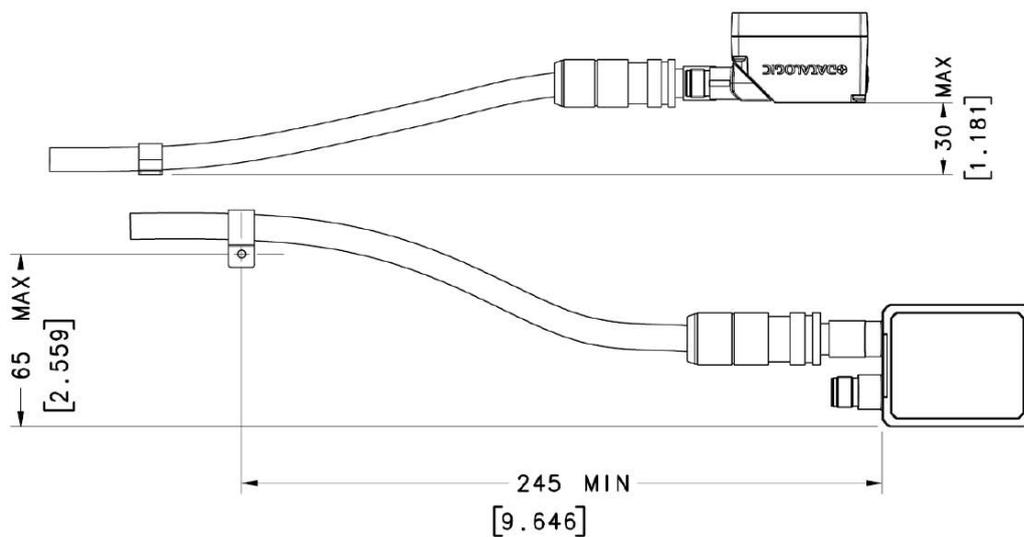
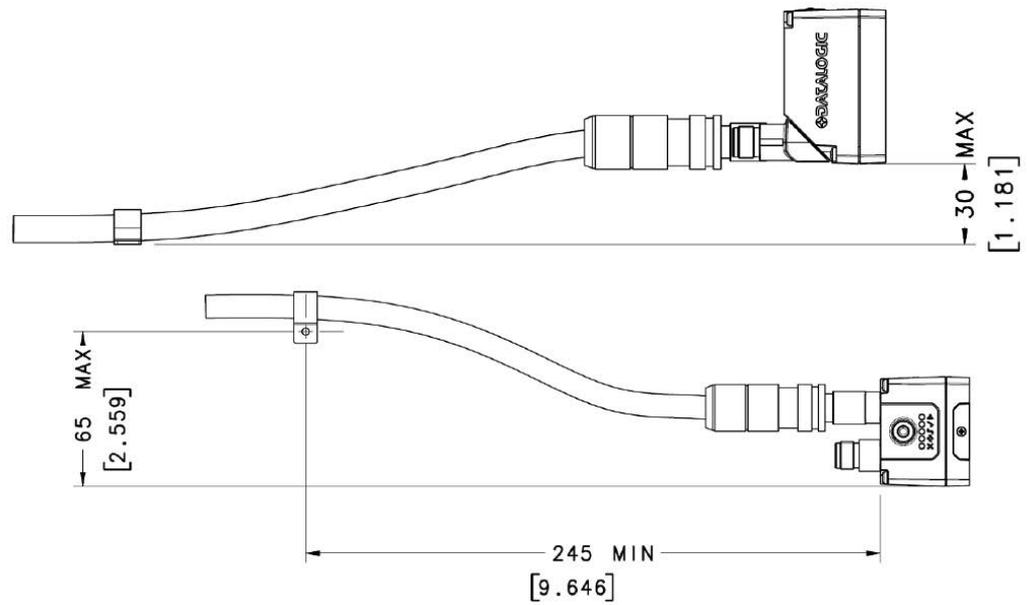

Figure 50 - Flexible Ethernet cable connected to Matrix reader with connector at 0°
Figure 51 - Flexible Ethernet cable connected to Matrix reader with connector at 90°
**PoE models only accept configuration with Ethernet cable (Figure 50 and Figure 51).**